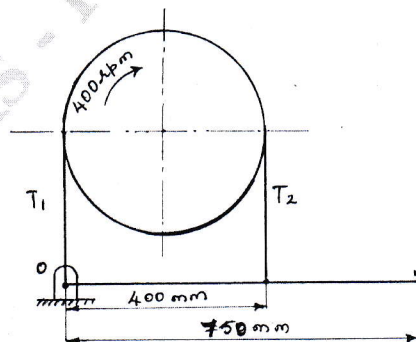

Fig.Q8(b)
b. A band brake shown in Fig.Q8(b), uses a v-belt. The pitch diameter of the v-grooved pulley is 400mm. The groove angle is  $45^\circ$  and the co-efficient of friction is 0.3. Determine the power rating.